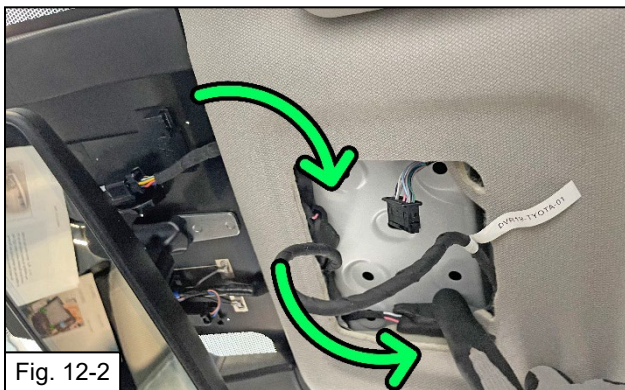

Fig. 12-2
- (b) Secure the Y-harness and fuse holders against the harness at the front edge and right side of the map light / sunglasses pocket opening. Snip excess Cable Tie length. (Fig. 12-2)